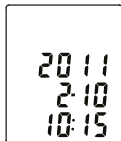

Fig.8
4. Press  () or  () to adjust year, press CLOCK () button to adjust next value (month → date → hour → minute). (see Fig.8)